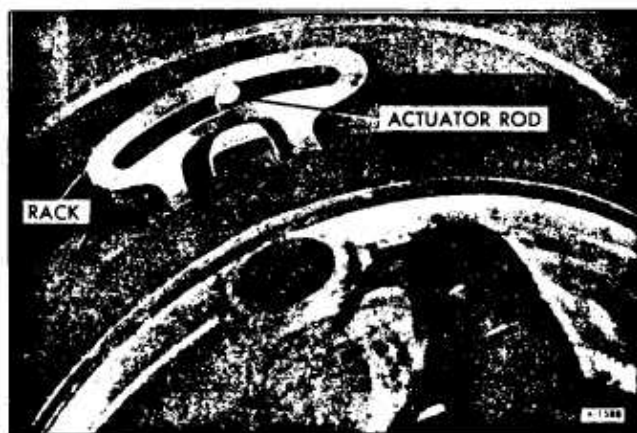

Figure 106—Engaging Rack
15. Install ignition switch actuator rod through bowl from bottom and insert in slot in support. Extend rack downward from bearing housing. Assemble bearing housing over steering shaft and engage rack over end of actuator rod (figure 106).